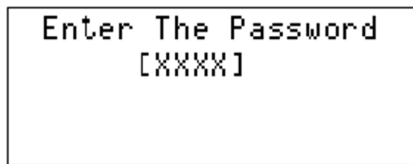
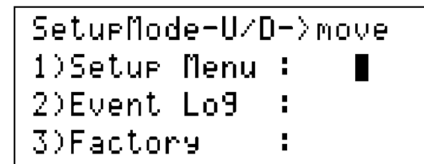

Figure 1: Password message
Figure 2: Setup mode menu
- To enter setup mode the system must be in stand-by mode, then by pressing Setup button password message (Figure 1) appears if the screen is locked, or the setup mode menu (Figure 2) appears. In screen locking case after entering right password; Setup button shall be pressed again to go to setup mode menu.